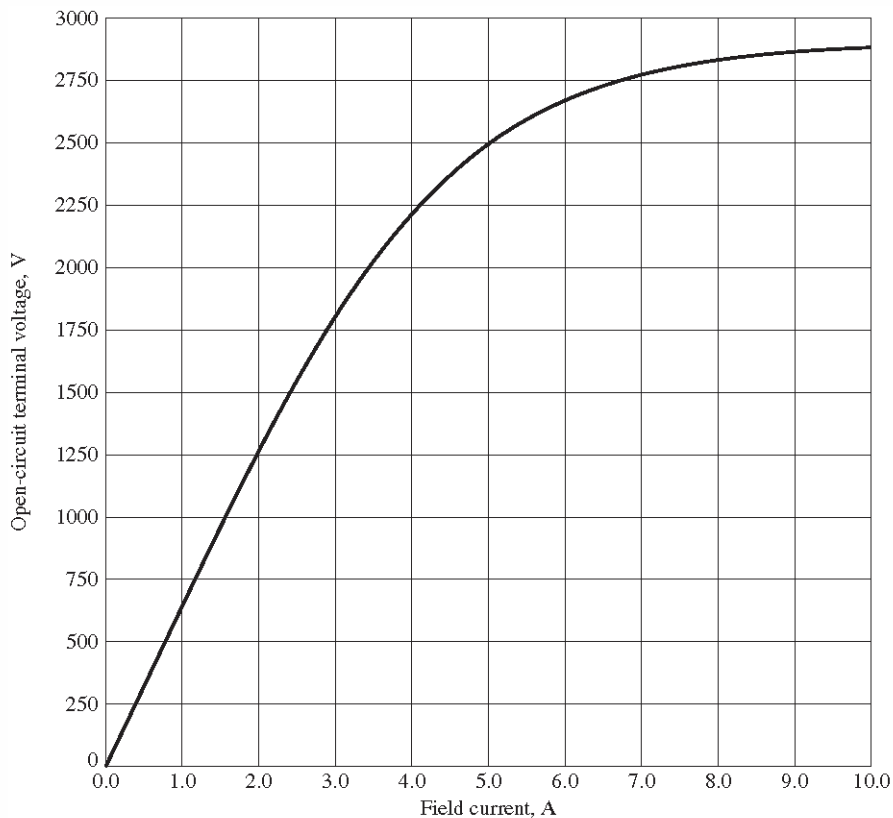

FIGURE P5-1
- 5-4.** A 2300-V 1000-hp 0.8-PF leading 60-Hz two-pole Y-connected synchronous motor has a synchronous reactance of **2.5 Ω** and an armature resistance of 0.3 Ω . At 60 Hz, its friction and windage losses are 30 kW, and its core losses are 20 kW. The field circuit has a dc voltage of 200 V, and the maximum I_F is 10 A. The open-circuit characteristic of this motor is shown in Figure P5-1. Answer the following questions about the motor, assuming that it is being supplied by an infinite bus.
- 5-5.** Plot the V-curves (I_A versus I_F) for the synchronous motor of Problem 5-4 at no-load, half-load, and full-load conditions. (Note that an electronic version of the open-circuit characteristics in Figure P5-1 is available at the book's Web site. It may simplify the calculations required by this problem.)